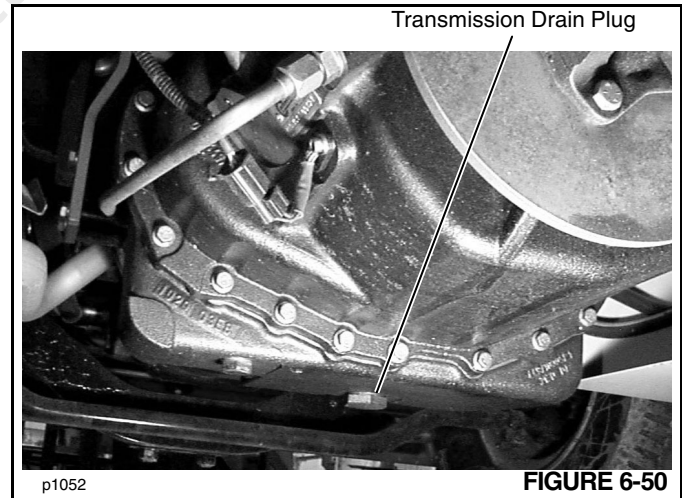

FIGURE 6-50
3. Place the container under the drain plug and remove the drain plug (Figure 6-50). Drain any oil left in the transmission into the container. Install the drain plug.